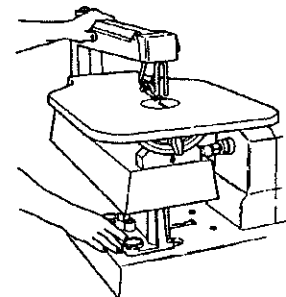

Fig.D-12
15. Line up the notches on the drive shaft hub with the ridges inside the coupler. Unlock the carriage, and with one hand on the carriage and another on the Scroll Saw, slide the carriage so that the coupler on the Scroll Saw fits over the drive shaft hub (31). See Fig.D-12.